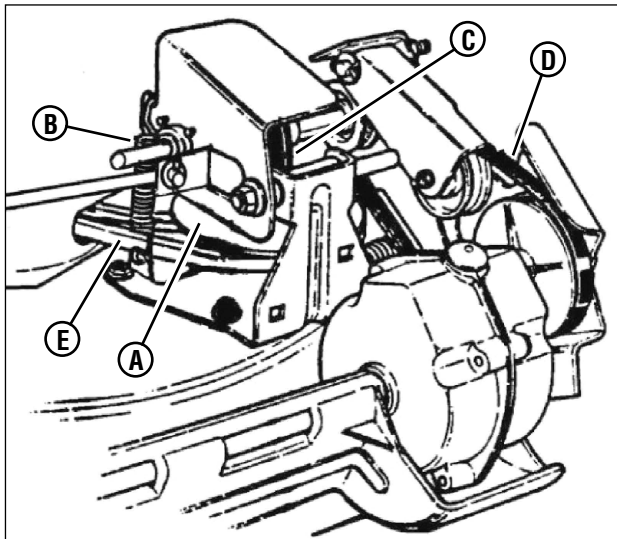

Figure 25: Wheel drive components
1. Grease on the drive disc (**A, Figure 25**) causing slippage.